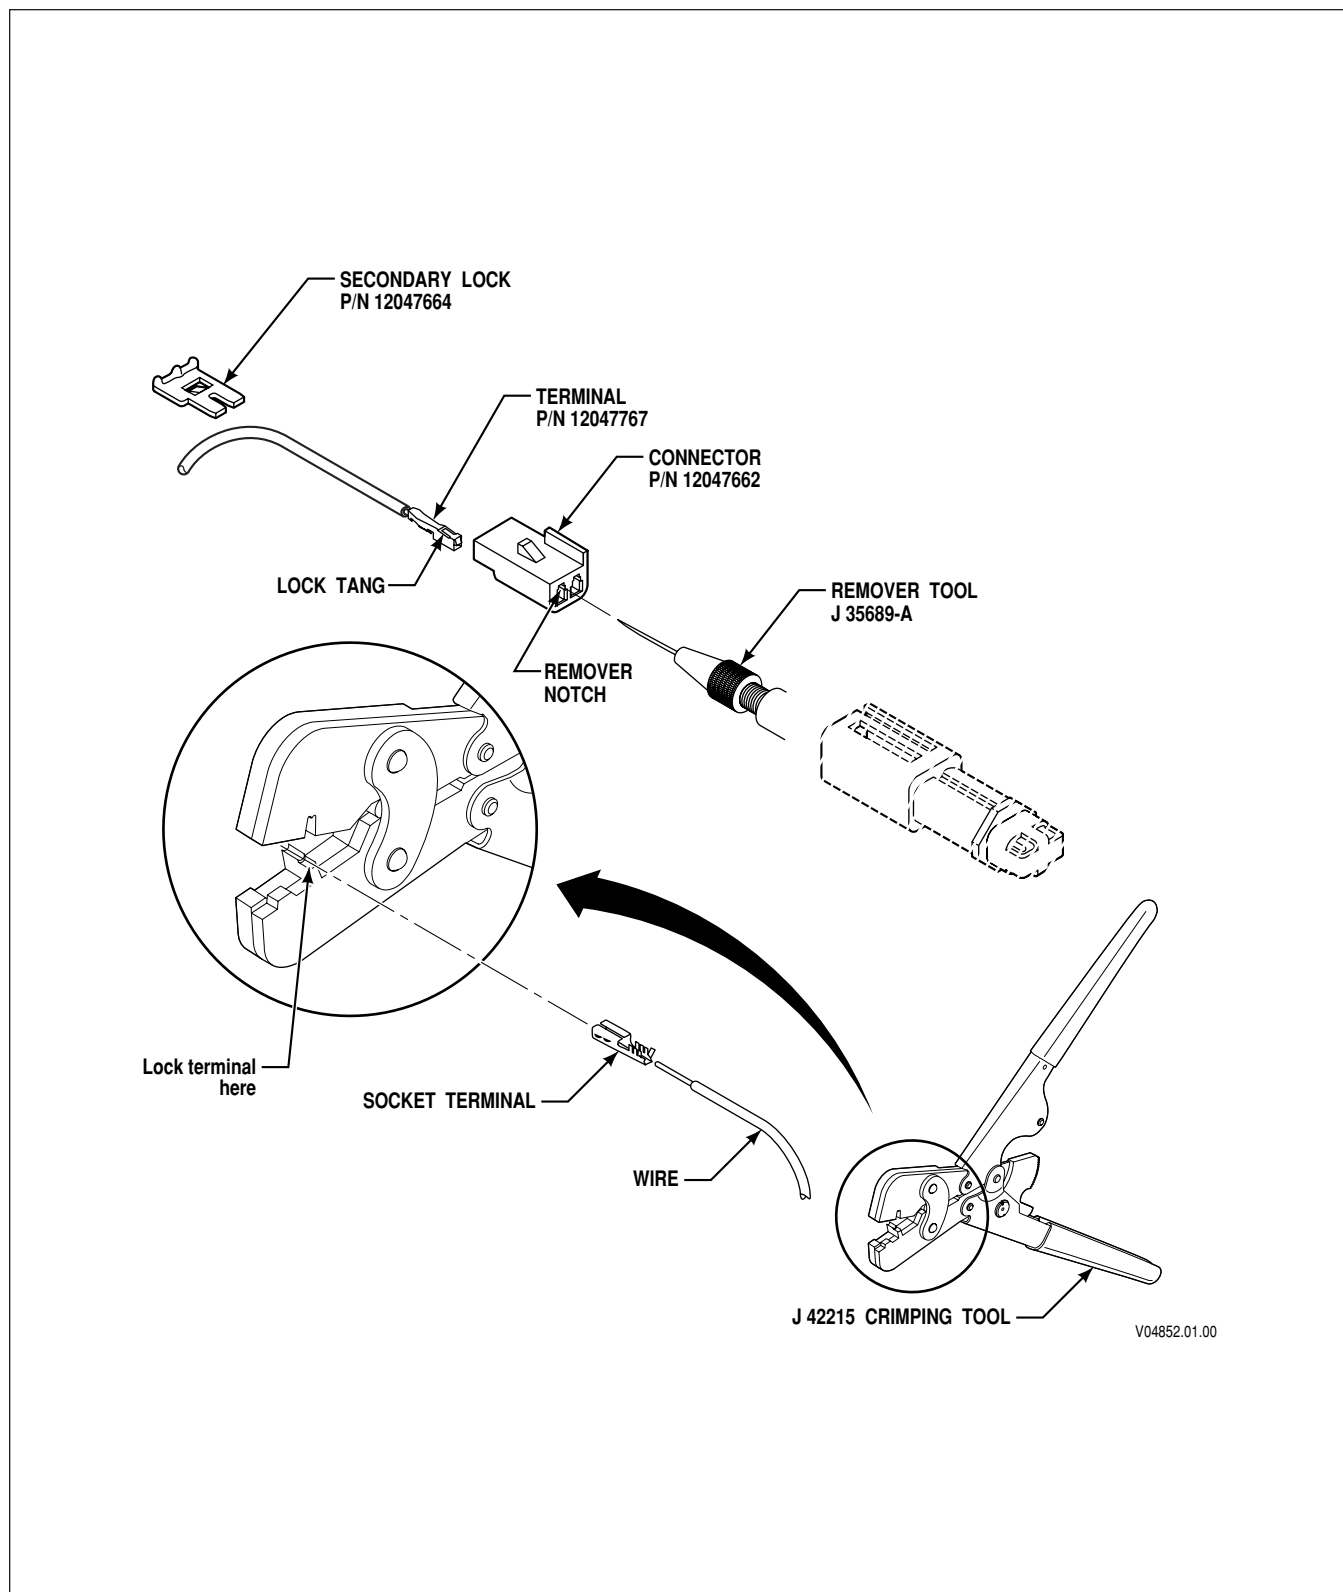

Figure E-8. Delphi-Packard Metri-Pack 150 Series Connector—Push-To-Seat
2. Insert needle end of terminal remover J 35689-A into the small notch in the front of the connector cavity of the terminal to be removed (Figure E-8).